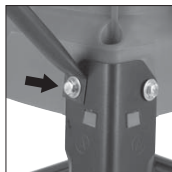

Fig. 9
- Insert the machine screw through the end of the support strut and refit the machine screw to the machine's main body. (Fig. 9)